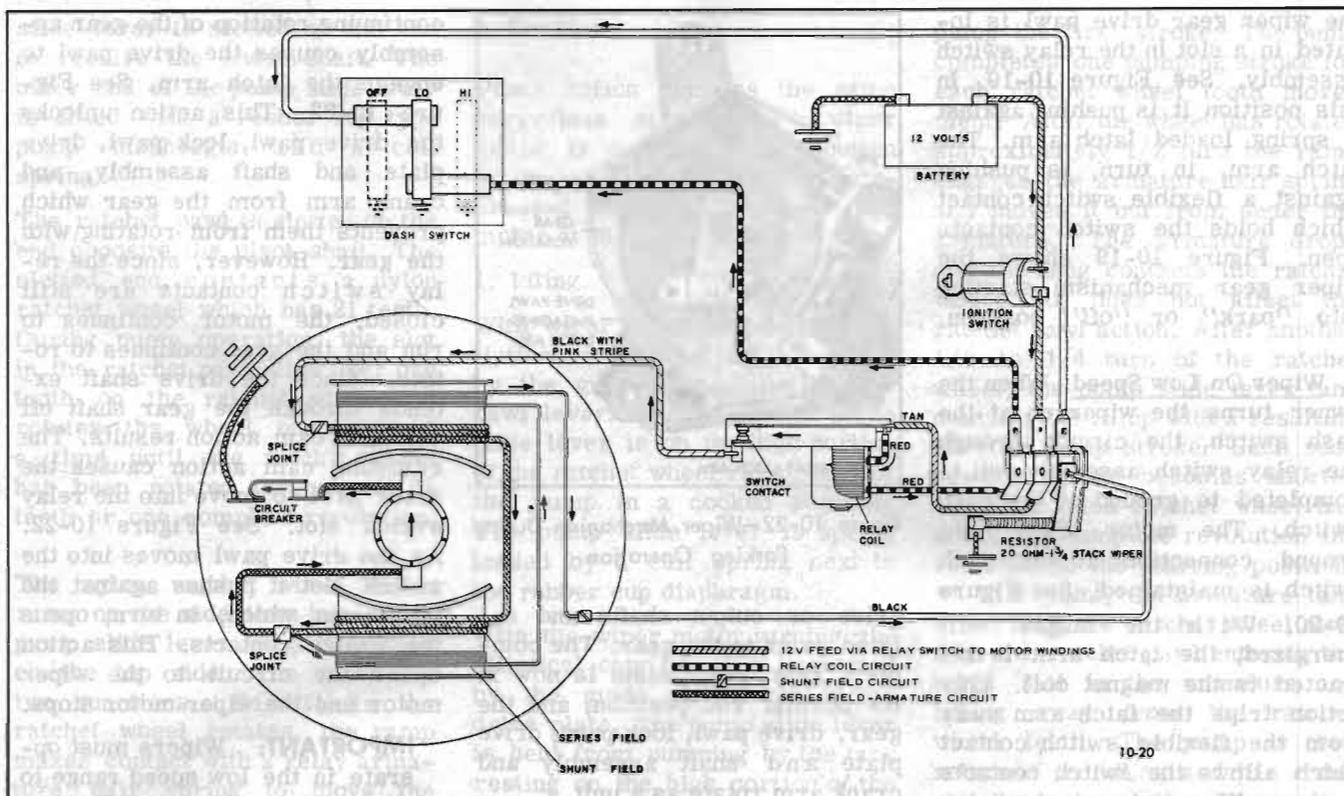

Figure 10-20—Wiring Diagram - Low Speed Operation
2. Wiper On Low Speed. When the owner turns the wiper on at the dash switch, the circuit through the relay switch assembly coil is completed to ground at the dash switch. The motor shunt field ground connection at the dash switch is maintained. See Figure 10-20. With the magnet coil energized, the latch arm is attracted to the magnet coil. This action trips the latch arm away from the flexible switch contact which allows the switch contacts to close. When the contacts close, the 12V feed (black with pink stripe) to the wiper motor windings is completed and the wiper motor starts.